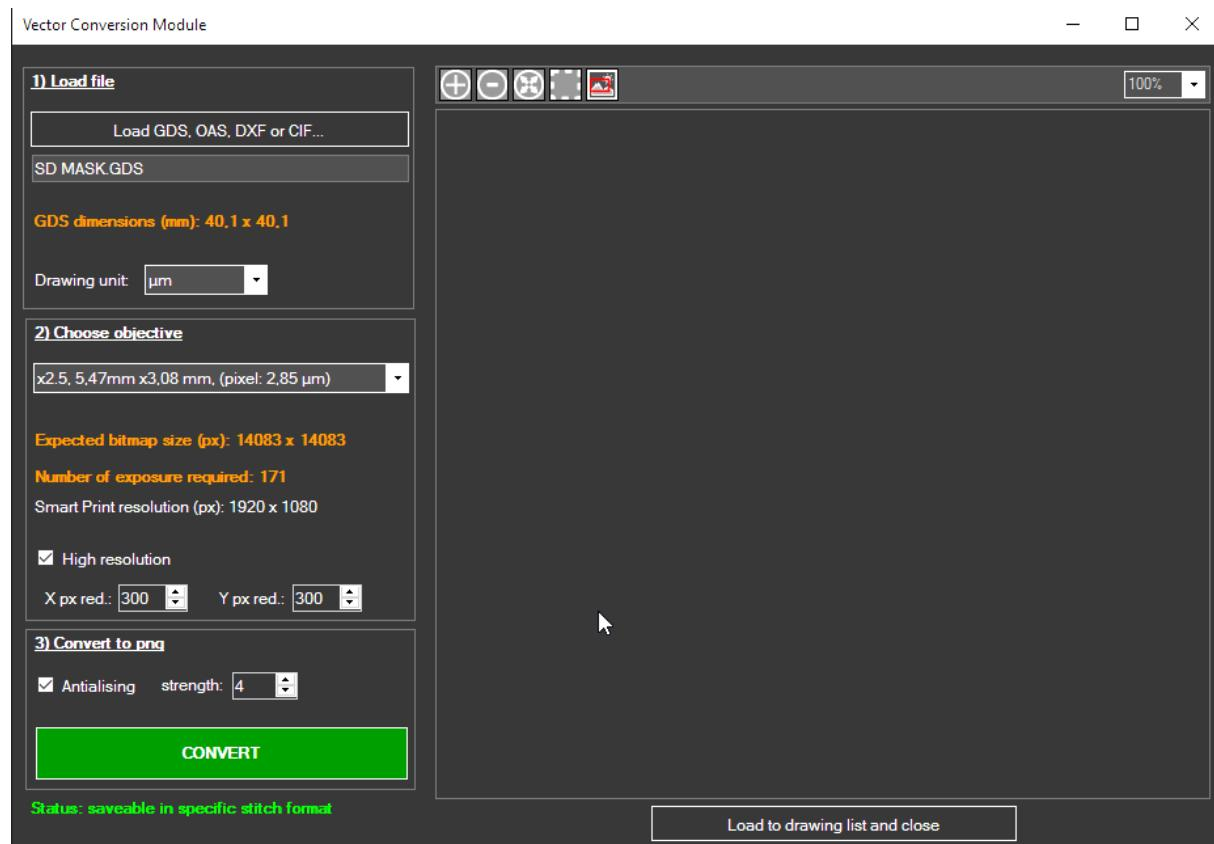

Figure 25 – Vector drawing conversion module
- In the vector Conversion Module window (Figure 25) click on **Load GDS, OAS, DXF or CIF...** and select the drawing to convert. The module extract the drawing size (operation may take a few seconds). Extracted dimensions are displayed in the **1) Load file** panel.